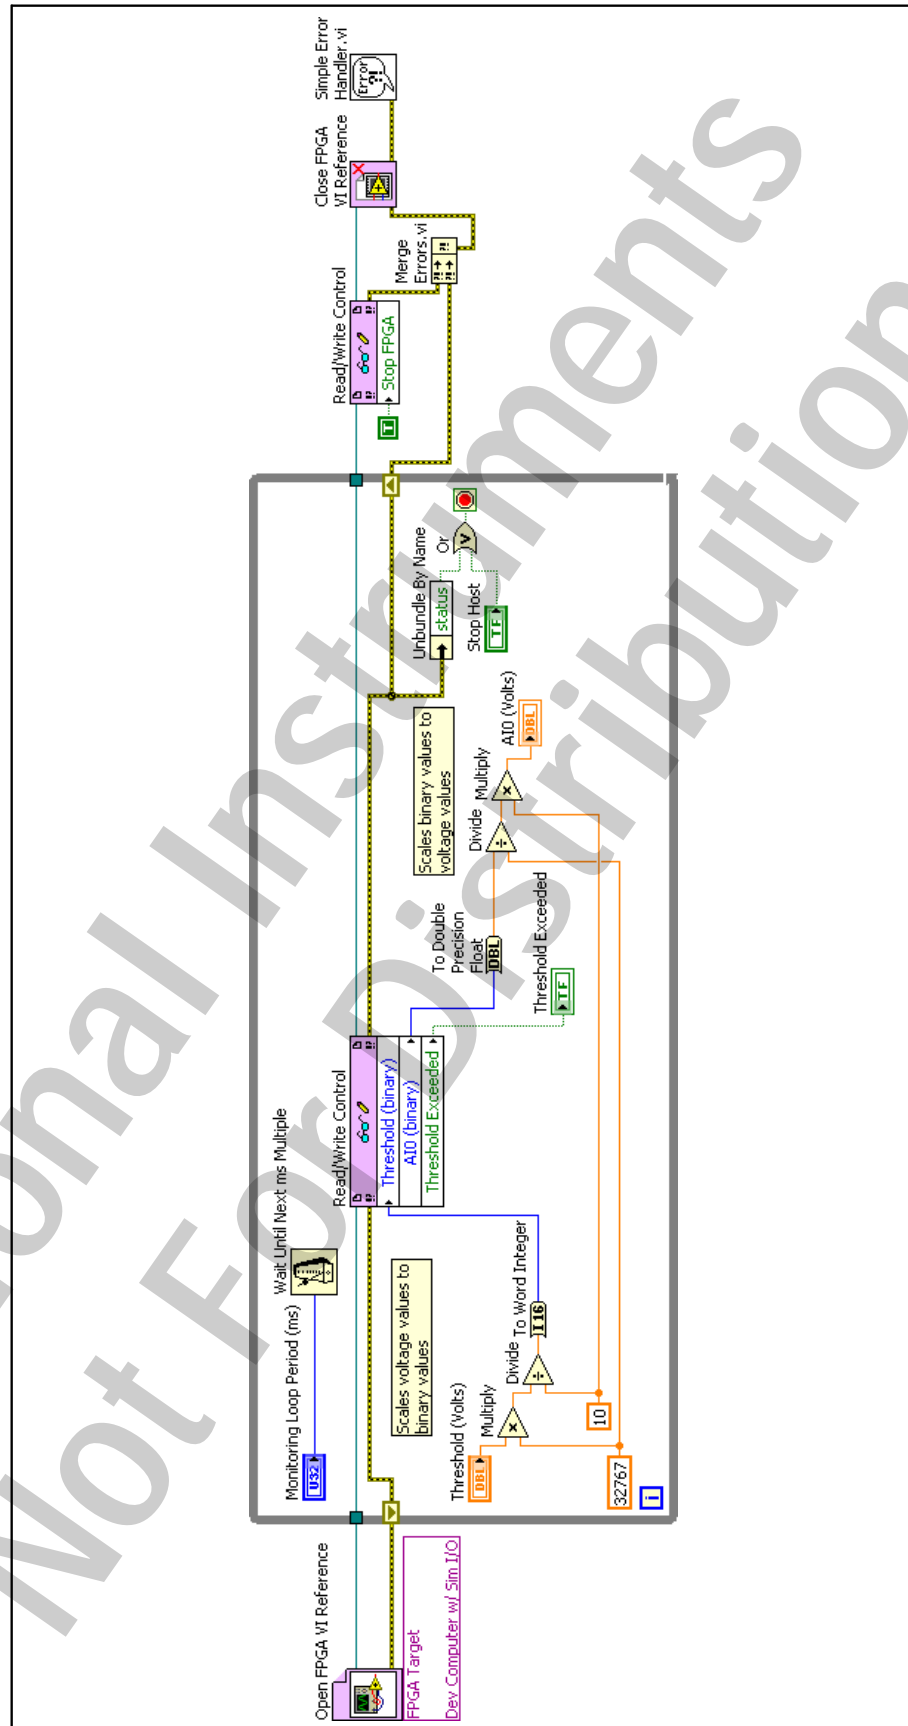

Figure 8-3. Threshold Windows Host VI Block Diagram
5. Create the block diagram of the Threshold Windows Host VI to send and retrieve values from the FPGA VI and scale between binary and voltage values, as shown in Figure 8-3, using the following items: